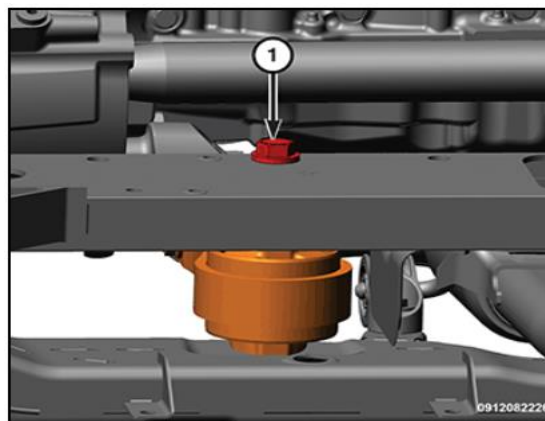

Fig 6. Rear Engine Torque Mount to Cradle
4. Loosen the rear mount to crossmember bolt (Fig 6. Labelled 1).
**NOTE:** RU FWD rear engine torque mount shown (Fig 6).